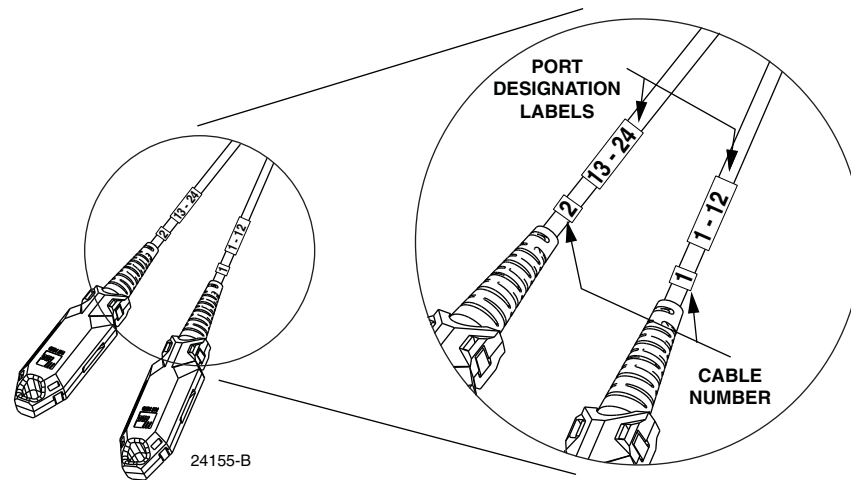

Figure 42. Cable Number and Optical Port Designation Labels
- c. Connect the microcable MPO connector to the appropriate equipment MPO connector. Labels are attached to each microcable, as shown in Figure 42, that identify the cable number and the range of optical ports associated with the MPO connector.